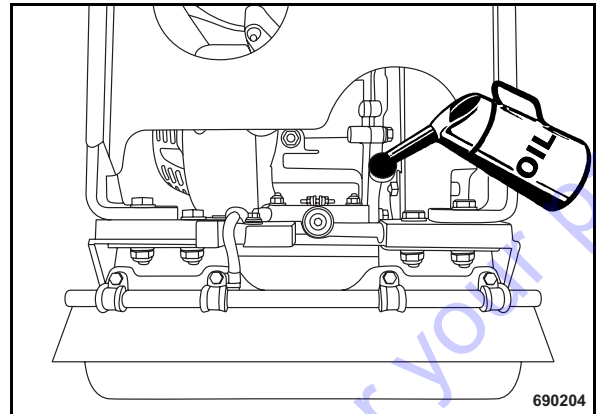

Fig. 50
- Fill in fresh engine oil through the filler opening (Fig. 50).